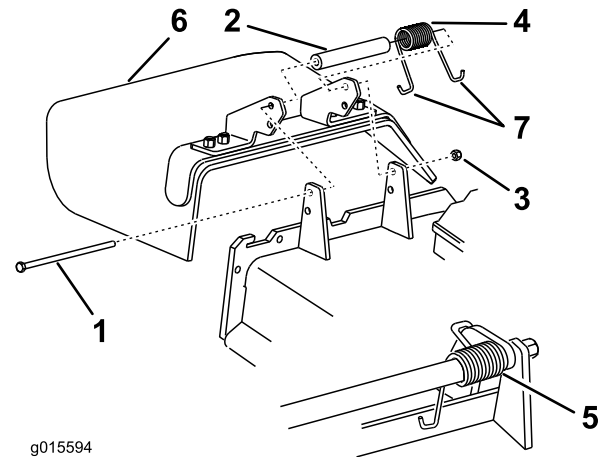

Figure 22
1. Make sure one **J** end of the spring is installed behind the deck edge before installing the bolt as shown in Figure 22.
2. Place one **J** hook end of the spring around the grass deflector (Figure 22).